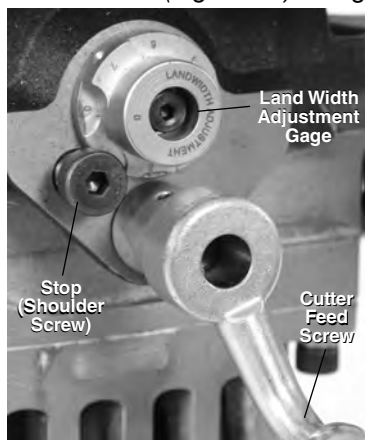

Figure 18 – Land Width Adjustment Gage Setting
6. Set the desired bevel land width (Figure 18) using the land width adjustment gage. If set to “0” there will be no land on the end of the pipe. Each step on the land width adjustment gage is approximately a 1/32" (0.8 mm) different from the adjacent step. (1 ~ 0.03" (0.8 mm) land width, 2 ~ 0.06" (1.6 mm), etc.) Move the needed step of the gage so it aligns under the head of the stop.
8. Using a smooth continuous clockwise rotation of the cutter feed screw (Figure 18); engage the cutter head into the work piece until the stop contacts the land width adjustment gage. Do not use cutting oil or coolant.